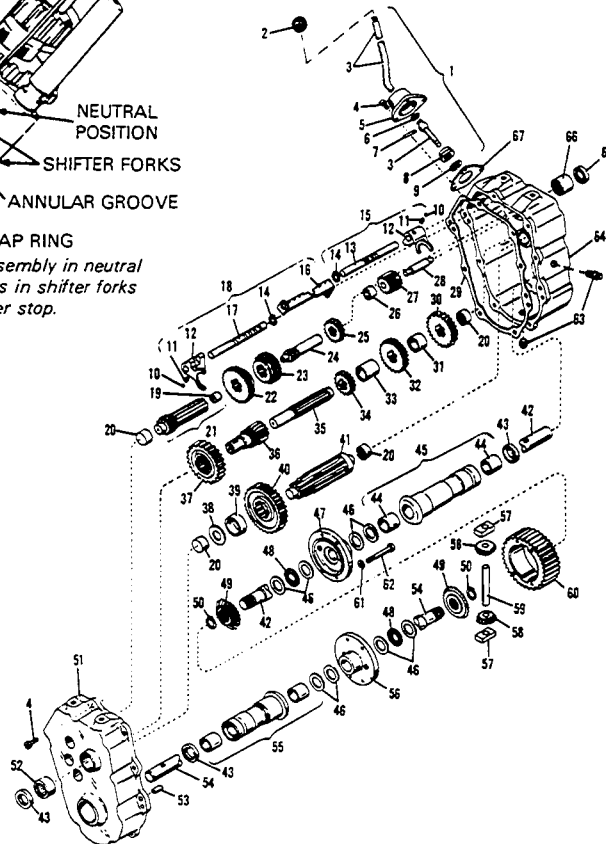

Fig. 2—Exploded view of transaxle used on models B207, B208.
Separate cover from case and lift cover up off the axle. Brake shaft (30—Fig. 2) and idler gear (29) will be removed with cover. Remove output shaft (41) with output gear (40), spacer (39) and washer (38). Withdraw the differential and axle shaft assembly and lay aside for later disassembly. Hold upper ends of shifter rods together and lift out shifter rods, forks, shifter stop, shaft (20) and sliding gears (22 and 23) as an assembly. Remove reverse idler gear (27), idler shaft (28) and spacer (26), then remove idler shaft (31) along with idler gears (32, 34 and 36) and spacers (33 and 35). Withdraw input shaft (24) and gear (25) from case. To remove brake shaft (30) and gear (29) from cover, block up under gear (29) and press shaft out of gear while being careful that pressure is not applied to cover during operation. Renew seals and bushings in axle housings (51 and 60) as required.